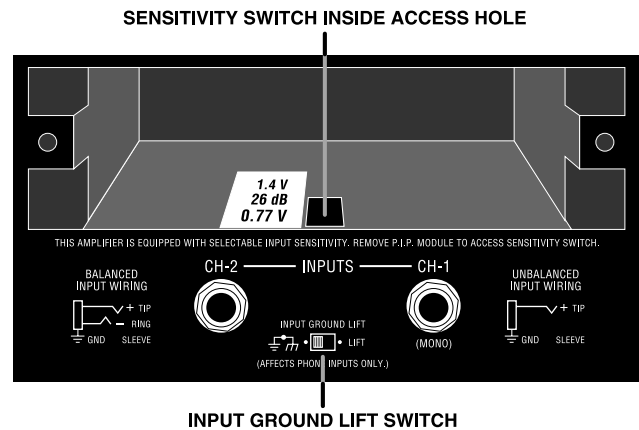

Fig. 4.3 Input Sensitivity and Ground Lift Switches
The **Input Sensitivity Switch** is located inside the back of the amplifier (Figure 4.3). It is set at the factory to 0.775 volts for rated output into 8 ohms. It can also be switched to a sensitivity of 1.4 volts, or a fixed voltage gain of 26 dB (4.8 volts for rated output).
3. Locate the sensitivity switch access hole inside the chassis opening as shown in Figure 4.3. It is located just above the phone jack inputs.
The **Input Ground Lift switch** is located on the rear panel (Figure 4.3) and can provide isolation between the input signal ground and the AC ground. It affects only the phone jack inputs and has no effect on the input connectors on the *PIP* module. Sliding the switch to the left isolates or "lifts" the grounds by placing an impedance between the sleeve of each phone jack and the circuit ground.